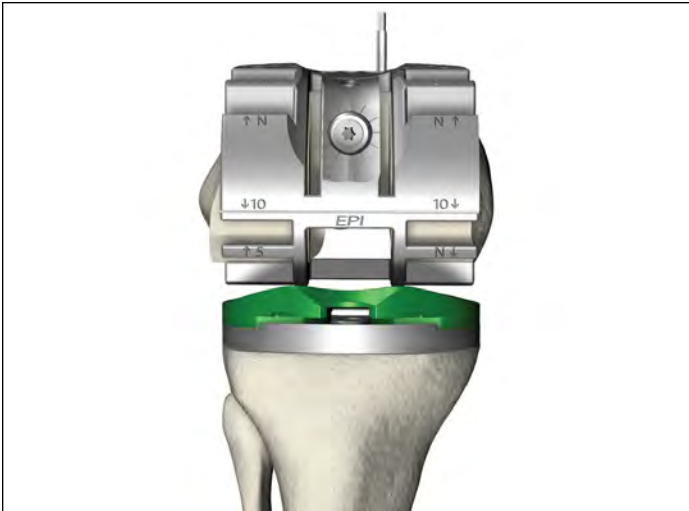

Figure 60
- With the knee flexed at 90°, appropriate external rotation can be set by positioning the TCG on the TCG Tibial Insert so that it is seated with no varus/valgus tilt (**Figure 60**). The transepicondylar axis or Whiteside’s axis can be used to estimate rotation as well.